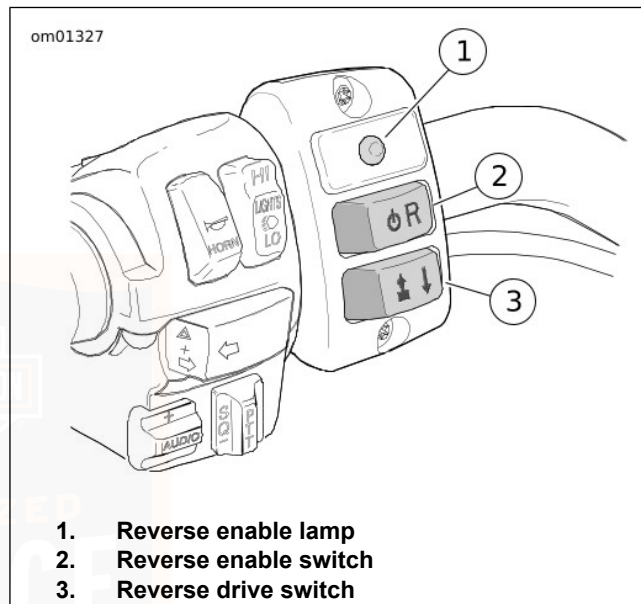

Figure 23. Reverse Controls
2. See Figure 23. With the vehicle started and in neutral, press the reverse enable switch (2) in the left hand control group. The yellow reverse enable lamp (1) is lit when reverse is enabled.
3. Press and hold the reverse drive switch (3) to operate the electric reverse motor. The reverse speed is limited to approximately 2-3 mph (3-5 km/h).